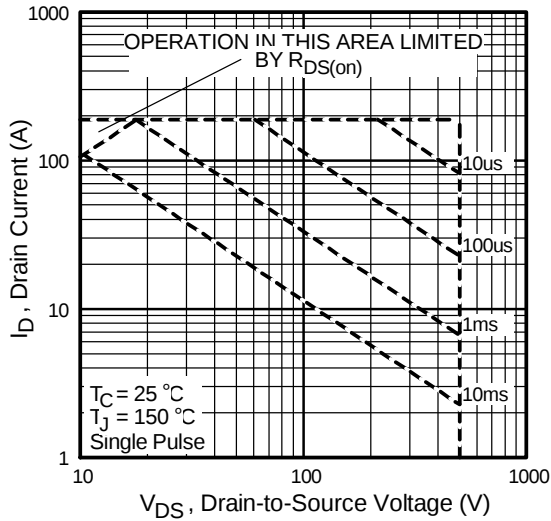

Fig 12. Maximum Safe Operating Area
- ② Starting $T_J = 25^\circ\text{C}$, $L = 0.86mH$, $R_G = 25\Omega$, $I_{AS} = 46A$. (See Figure 12).
- ③ $I_{SD} \leq 46A$, $di/dt \leq 550A/\mu s$, $V_{DD} \leq V_{(BR)DSS}$, $T_J \leq 150^\circ\text{C}$.
④ Pulse width $\leq 400\mu s$; duty cycle $\leq 2\%$.
⑤ C_{oss} eff. is a fixed capacitance that gives the same charging time as C_{oss} while V_{DS} is rising from 0 to $80\% V_{DSS}$.